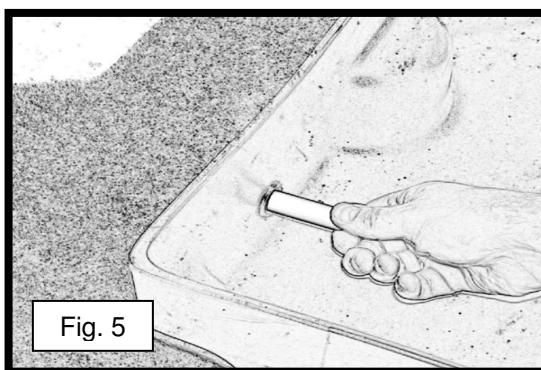

Fig. 5
- 4) After all of the grommets are seated, it is time to place the Teflon tube into the first grommet. Line up the outside diameter of the tube with the inside diameter of the grommet (see fig. 5). Make sure you have seated the tube in the grommet enough so it can support itself.